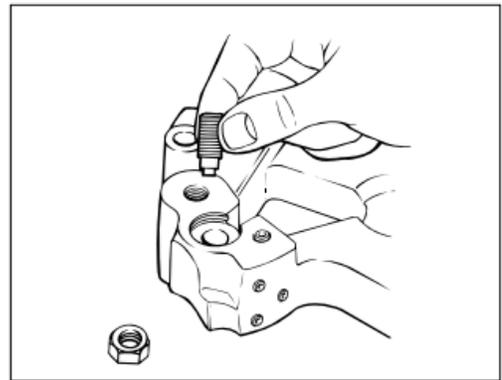

FIG. 5
1. Loosen the slave piston adjusting screw locknut and remove the adjusting screw from the housing (see Fig. 5).